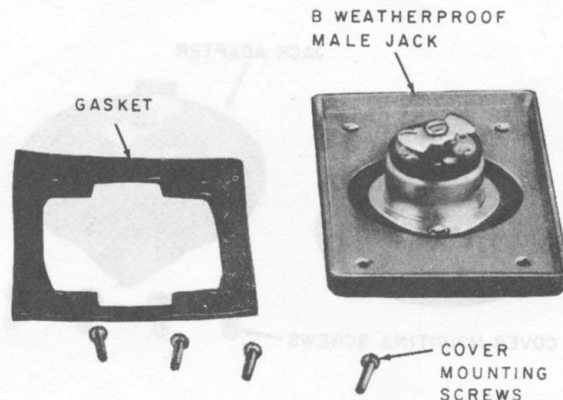

Fig. 6—B Weatherproof Male Jack
- Jack, Male, Weatherproof, B (for use on RV, Fig. 6, 7, 8, and 9)
2.06 The B weatherproof male jack (Fig. 6, 7, 8, and 9) mounts in the B outlet box on the recreational vehicle and receives the female plug of the B weatherproof cord to provide telephone
- One B weatherproof male jack mounted on the recreational vehicle (Fig. 6)